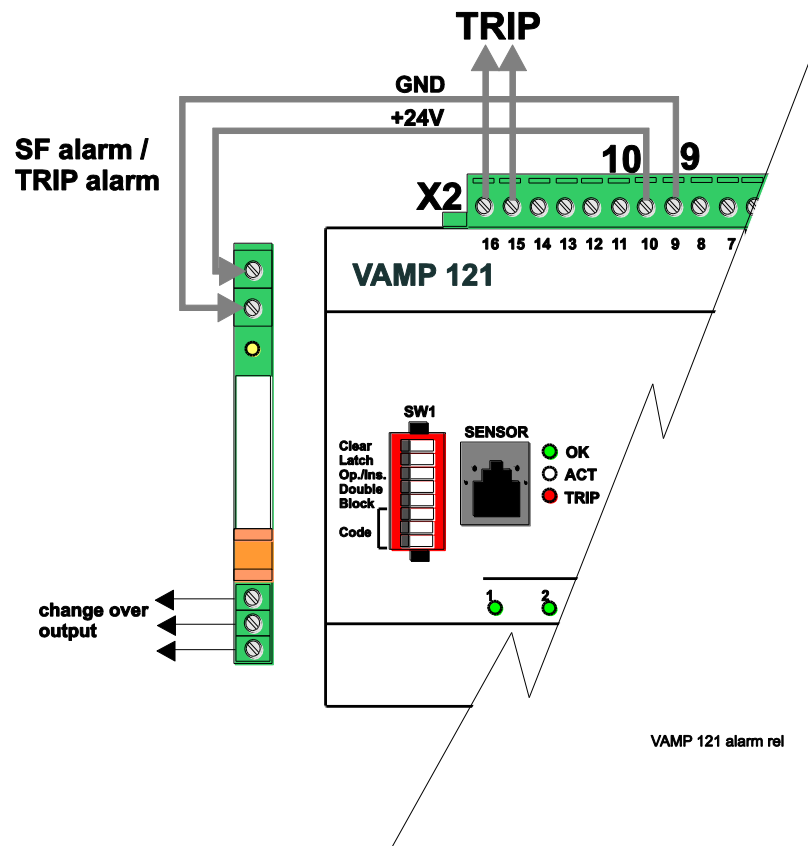

Figure 6.1-1 Output relay connection
Furthermore, one binary output is available (+24V dc) X2-9 (-) X2-10(+), which becomes inactive (0V) on internal fault (SF) and / or on tripping (configurable). This output can control an external relay. See Figure 6.1-1.